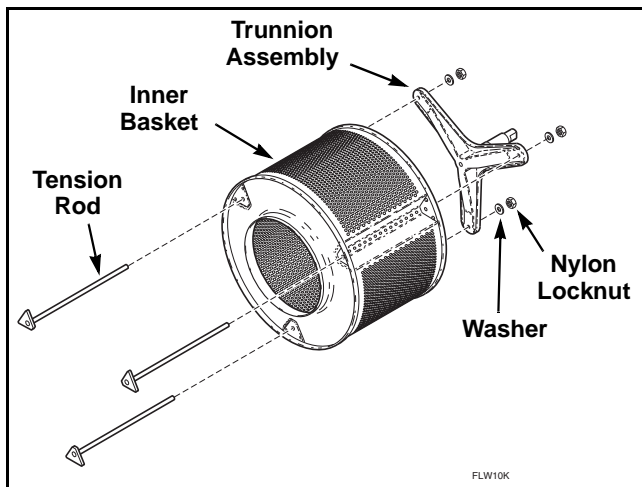
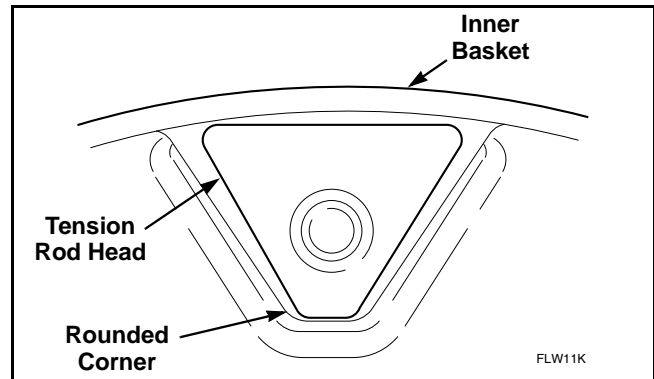

Figure 47
Figure 48
- Remove nuts, washers and tension rods holding trunnion to inner basket. Refer to *Figure 47*.
- Insert tension rods into inner basket. Refer to *Figure 47*. Position each rod so the rounded corner of triangular head faces the center of inner basket. Refer to *Figure 48*.